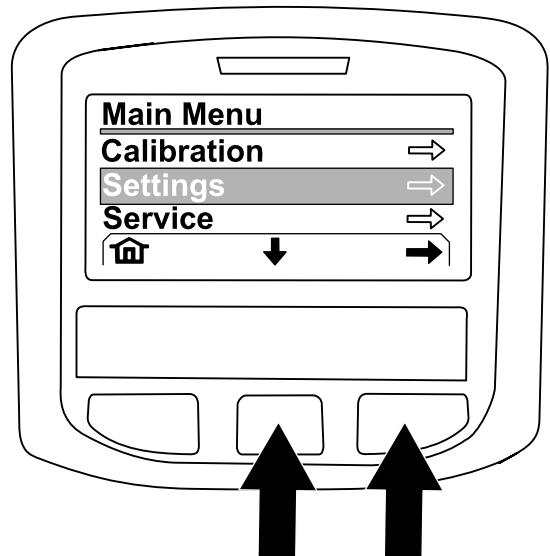

Figure 228
4. At the MAIN MENU screen, press the center button to navigate to the SETTING option, and press the right button to select the option (Figure 228).